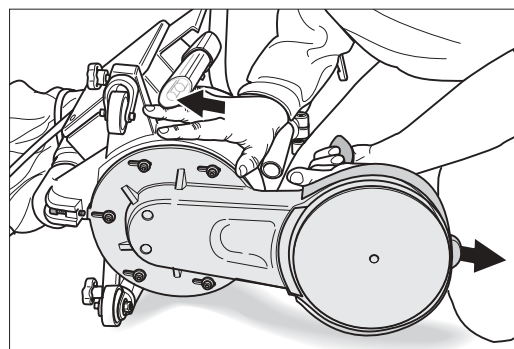

Fig. 58: Use the handle to pull the attachment forward until you feel the belt resistance.
- 6 Push the attachment all the way back. Use the machine handle to pull the attachment forward again until you feel the resistance caused by the V-belt (Fig. 58). To prevent damage to the floor, make sure that the attachment does not touch the floor!